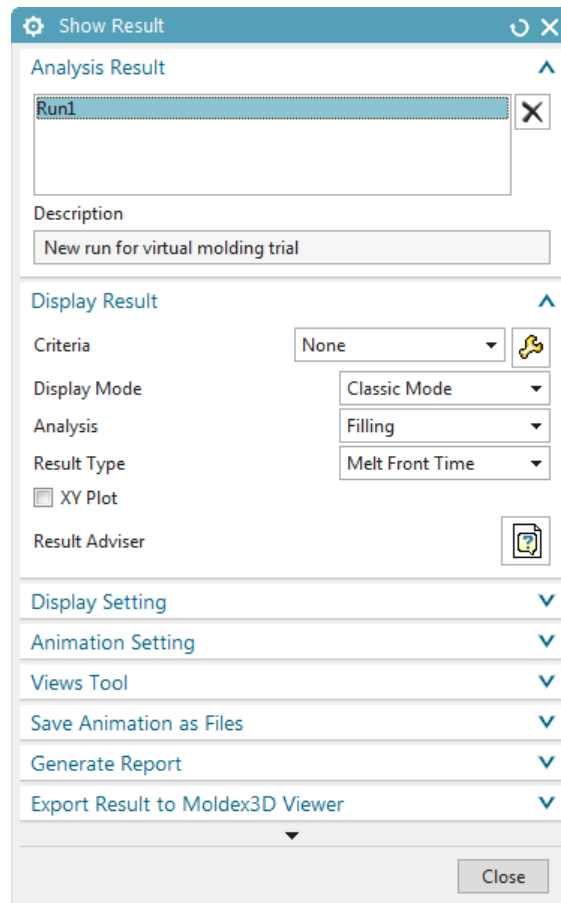

Figure 16-84 The modified Show Result dialog box
7. Select the result from the **Analysis Result** rollout; the dialog box gets modified, refer to Figure 16-84.